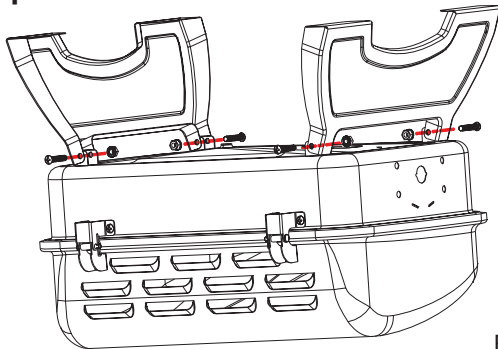

Fig. 1
Procedure: Attach (2) Support Legs to the Firebox Assembly using (4) M6x35 bolts and (4) M6 nuts as shown in Fig. 1.